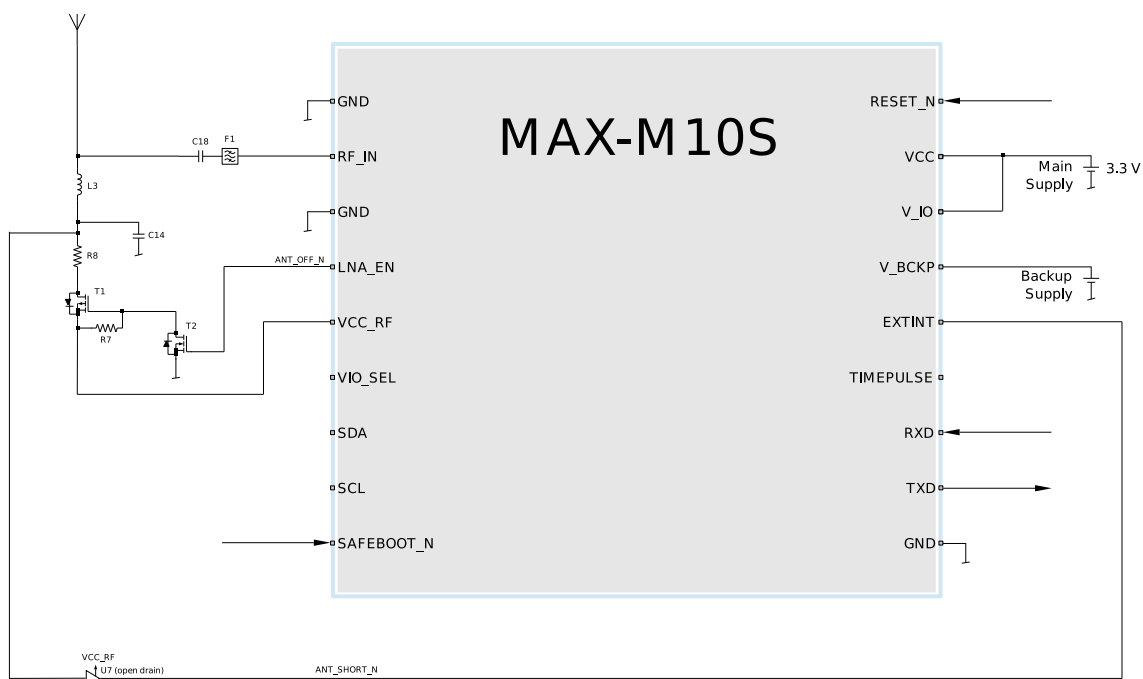

Figure 37: 2-pin antenna supervisor design
- A passive or active antenna can be used. An active antenna can be supplied either with the VCC_RF output from MAX-M10S, as shown in Figure 37, or from an external supply, as shown in Figure 38. Nevertheless, the internal LNA provides enough gain for passive antennas.
- MAX-M10S has an integrated RF circuit which includes band 13 notch filter followed by a low-noise amplifier (LNA) and a SAW filter, hence, no additional RF front-end component is needed. However, in cellular applications, an external SAW filter can be added in front of RF_IN as shown in Figure 37, allowing a SAW-LNA-SAW RF front-end circuit for improved out-of-band immunity against RF interference from other sources.
Figure 37 and Figure 38 show a reference design for a 2-pin and 3-pin antenna supervisor design respectively. Here are the key features:
- An external SAW filter can be placed on the RF path as shown in Figure 37, which allows an SAW-LNA-SAW RF front-end circuit for improving out-of-band immunity against RF interference from other sources. This is especially useful when MAX-M10S is used in cellular applications.
Table 49 lists the configuration settings required for the 2-pin antenna supervisor reference design given in Figure 37.